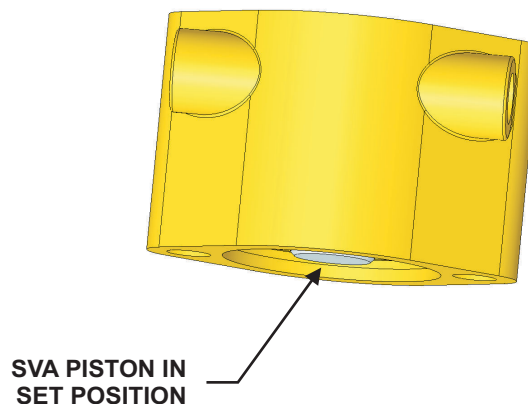

Figure 5-12. SVA in 'Set' Position
4. The bottom surface of the piston must be in the body of the SVA. If it is in the released position, push the spring loaded plunger in while pushing the piston into the body of the SVA (see Figure 5-12).